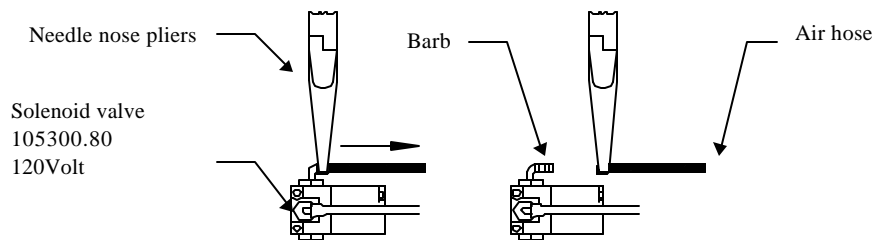

Figure 10
- To remove hoses from the blue Mac valve, use a pair of needle nose pliers, place the jaws on either side of the air hose, and *gently* pry the hose off the barb that is mounted to the valve. Take care not to damage the barbs (figure10).